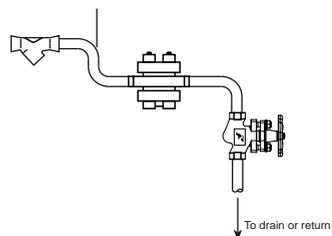

Figure 3 : Installation FMTD722-M on mainline
5. Installation Guidelines: (Refer Figure : 3)
6.1. Flushing of Lines: [Refer figure 3]
6.2. Commissioning: [Refer figure 3]
1. After flushing of lines is complete, ensure that drain valve (C) is closed and stop valve (B) is opened.
6.2. Commissioning with particular reference to venting air: [Refer figure 3]